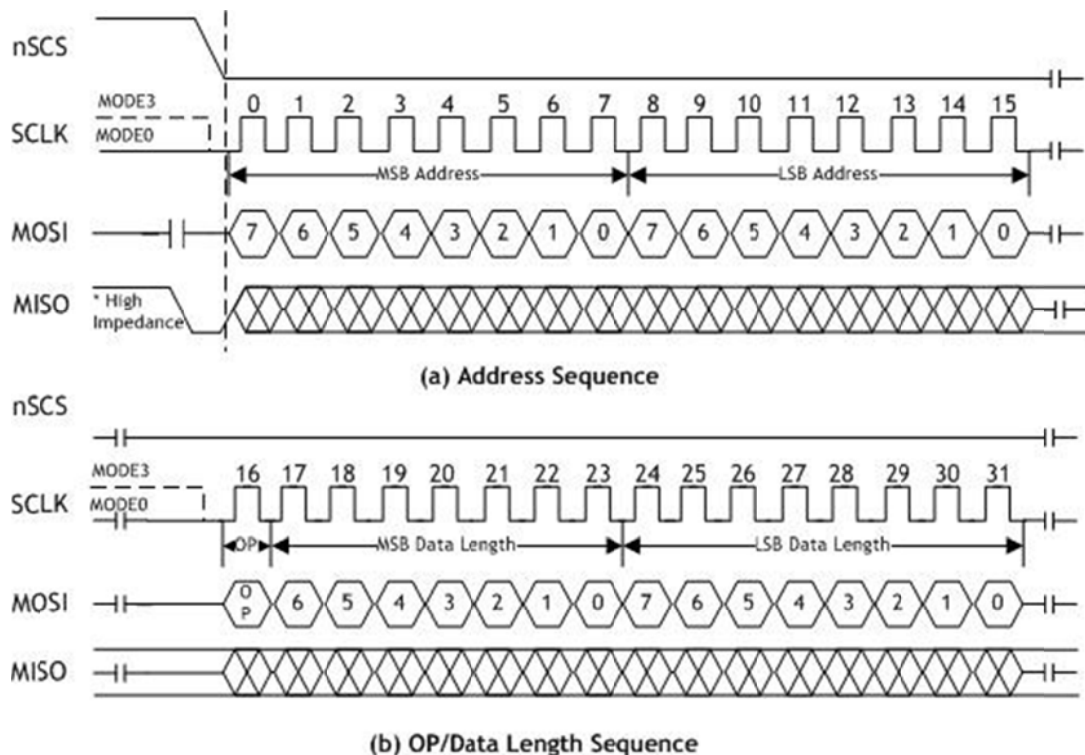
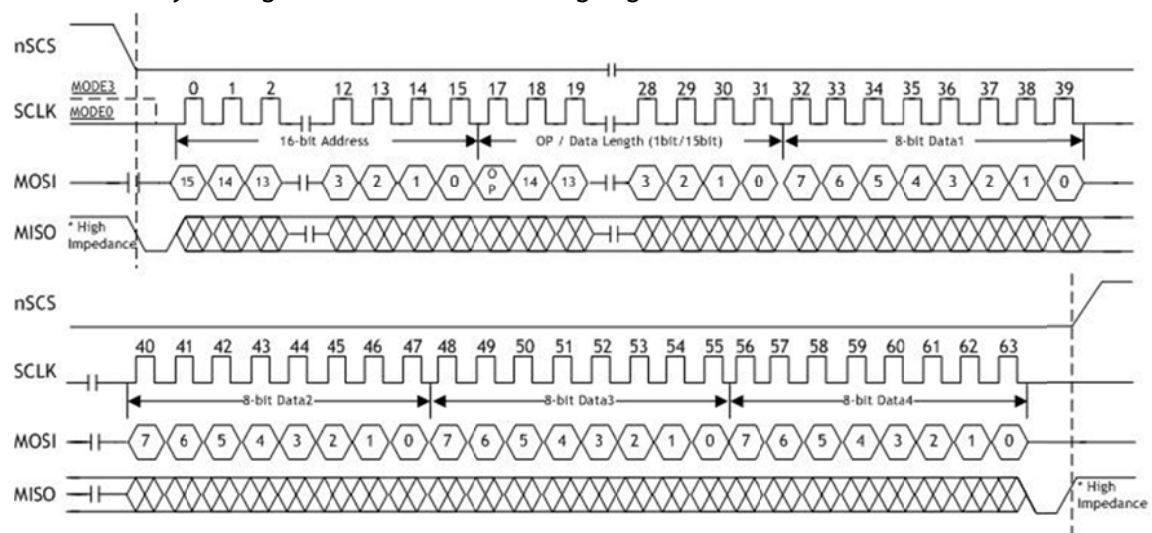

Figure 19 Address and OP / DATA Length Sequence Diagram
Figure 20 READ Sequence
The READ Processing Sequence Diagram is shown in Figure 20. The READ processing is entered by driving nSCS low, followed by the Address, the OP code, the Data Length and the Data byte on MOSI. The Address, the OP/Data Length Sequence Diagram and the Data are shown in Figure 19. The OP code (OP) is defined type of the READ OP and WRITE OP. On OP = 0, the read operation is selected. Otherwise, On OP = 1, the write operation is selected.